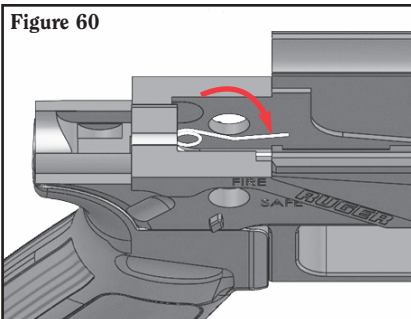
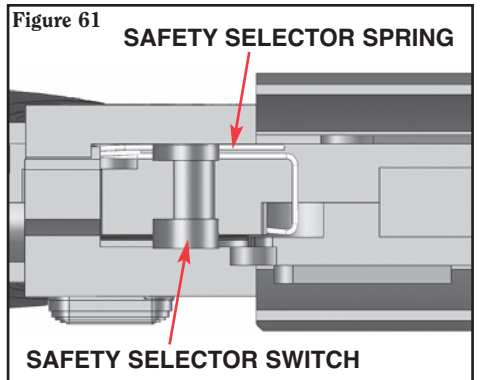

Figure 60
Figure 61
2. Keep the spring depressed below the opening of the selector hole (see Figure 60) as you reinstall the safety selector switch into the other side of the lower receiver all the way through until it bridges across both holes. (See Figure 61.)